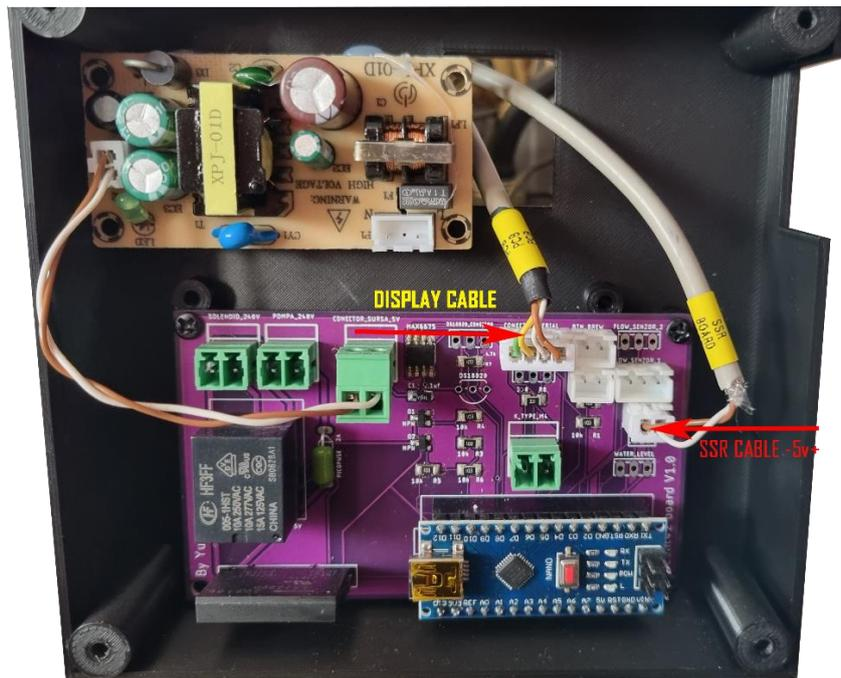

Fig. 6.10
- Connect the PCB end of the display cable to the main board (fig. 6.10)